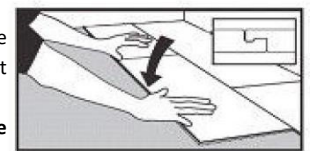

Figure 3
14. Install the remaining planks and rows in the same manner (**Figures 3 & 4**).